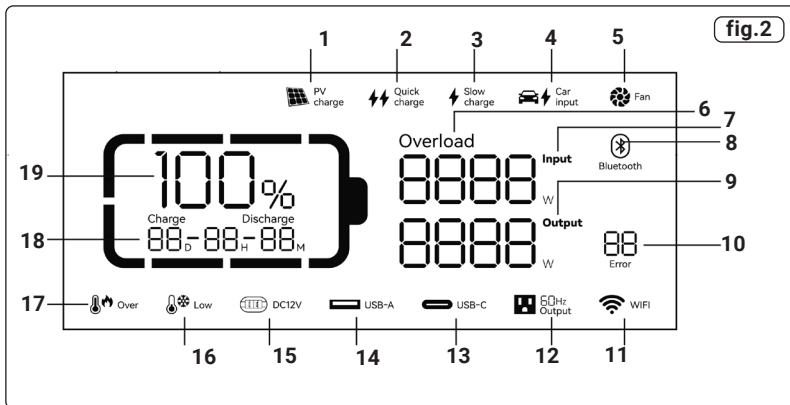

Figure 2 Key
### • Operation (fig.2, fig.3, fig.4)
- When this product has not been interacted with for 5 minutes without any operation, the LCD display (fig.2) will be automatically extinguished.